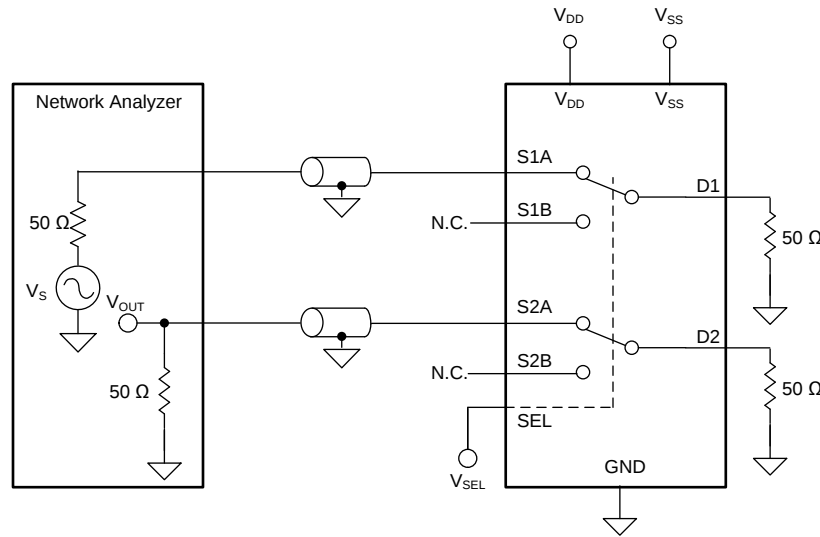

图 25. Inter-channel Crosstalk Measurement Setup
2. Inter-channel crosstalk: the voltage at the source pin (Sx) of an on-switch input, when a 1-VRMS signal is applied at the source pin of an on-switch input in a different channel, as shown in 图 25